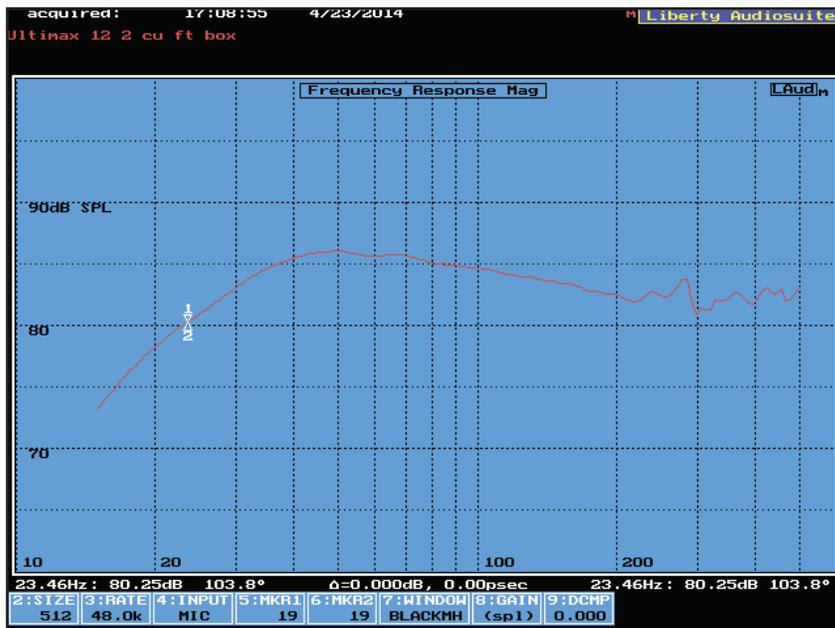

Figure 1: The Dayton Audio Ultimax 12” driver’s frequency response is measured using a 2-ft3 enclosure.
**Figure 1** shows this driver's frequency response. You will notice that the curve is very smooth with only a little ripple as the frequency exceeds 200 Hz, which is an area beyond normal subwoofer use.